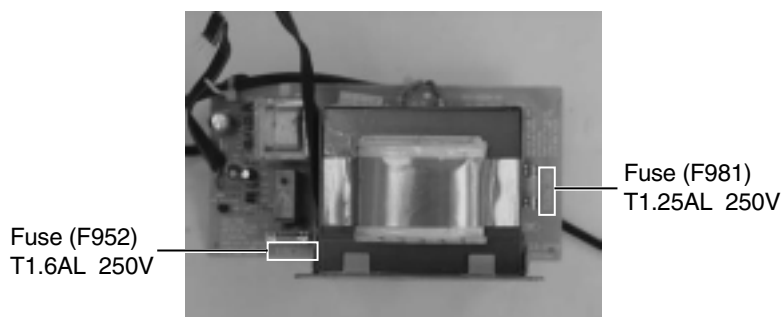

Fig.1
■ Replacing the fuses (See Fig.1)